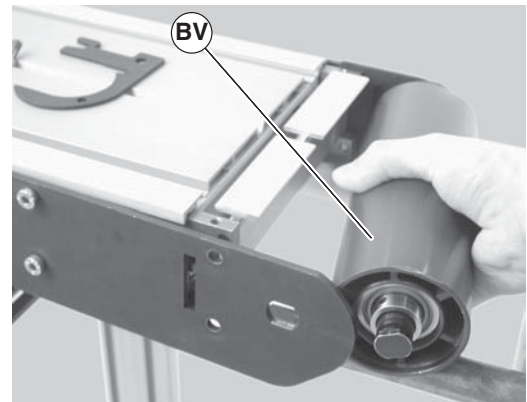

Figure 51
4. Slide the idler pulley assembly (Figure 51, item BV) out of the headplate on the opposite side.